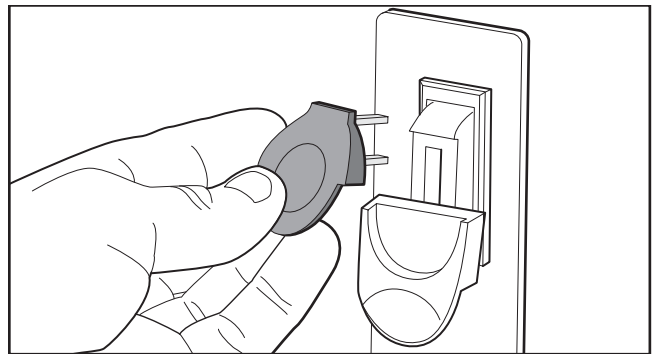

Figure 11. Disabling switch by removing key.
6. Remove the switch disabling key, as shown in **Figure 11**.